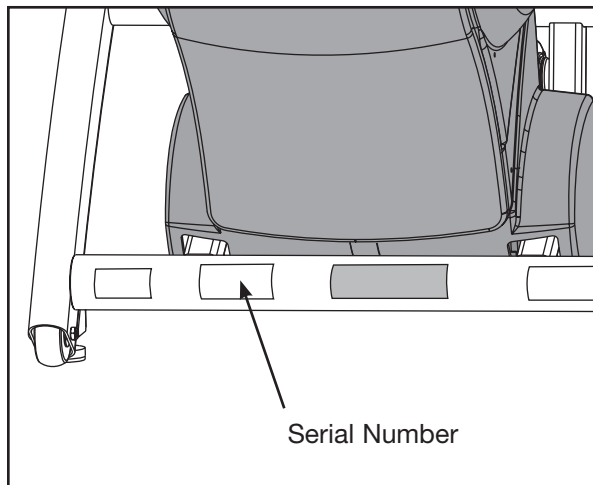

Figure 1
Your serial number and voltage can be found on the front of the unit. See Figure 1.
3. Provide the model and serial number. *The serial number is located on the front of the unit as shown in Figure 1.* The serial number begins with a letter, for example: R09-101331100.